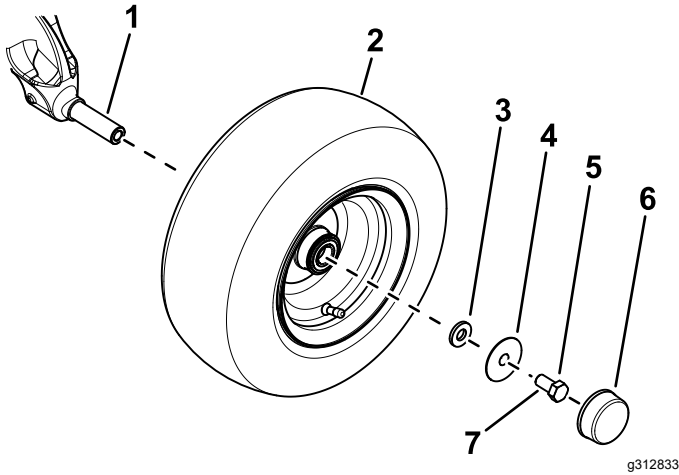

Figure 3
- B. Use a small washer, large washer, bolt (5/8 x 1-1/4 inch), and to secure the wheel to the axle spindle (Figure 3).
- D. Install the dust cap to the wheel (Figure 3).